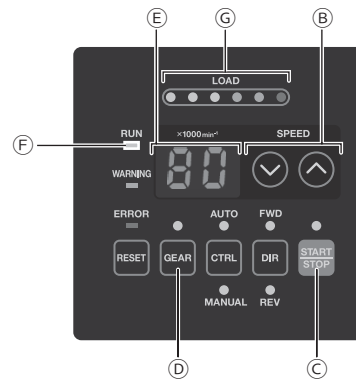

Fig. 23 CONTROLLER Control Panel
- (4) Setting Gear Ratio (Set the Gear Mode Select Button (GEAR) ① of the Fig. 23 CONTROLLER Control Panel.)
- (6) Motor Start / Stop (Motor Start / Stop by pushing the Start / Stop Button (START / STOP) ③ of the Fig. 23 CONTROLLER Control Panel)
- (4) Setting Gear Ratio (Set the Gear Mode Select Button (GEAR) ④ of the Fig. 23 CONTROLLER Control Panel) Push the Gear Mode Select Button ④. (GEAR LED will be illuminated.) Check the gear ratio of the spindle or reducer combination being used, select the appropriate gear ratio, by pushing the Speed Adjustment Button (SPEED ⬆, ⬇) ⑤. Display Speed Indicator ⑥, will show the 6 possible gear ratios : 1.0, 1.5, 2.7, 4.0, 6.0, 16.